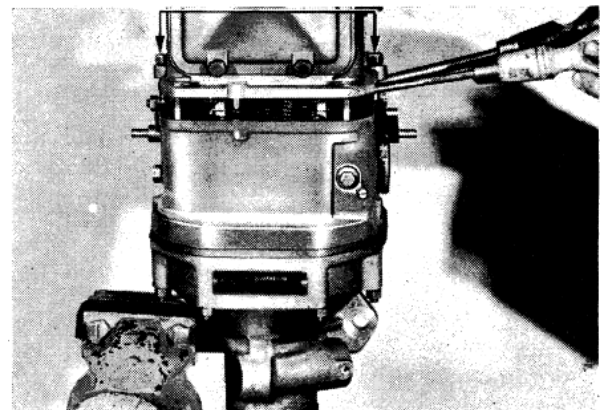

Fig. 35 Fitting Gearbox to Overdrive Unit. This operation is shown being carried out with a Vanguard unit.
17. Fit the gearbox assembly to the overdrive unit, holding the latter in a vice as shown in Fig. 35. It is necessary to depress the pump plunger with a screwdriver whilst carrying out this operation, in order to allow the cam to pass over its roller on the pump plunger. The operating cam should be assembled on the gearbox mainshaft's splines so that the eccentric is offset from the ball race; this is obviously necessary to allow the cam to align with the pump roller. The driving plunger on the overdrive unit should be slowly revolved by hand, as the splines on the gearbox mainshaft approach those in the overdrive unit.
to the overdrive unit, holding the latter vertically in the vice as shown in Fig. 35. After engaging top gear, turn the constant pinion until the splines in the overdrive unit mesh with those of the mainshaft. The eight springs are now located on their spigots and a nut and washer fitted to each long stud. These two nuts are now evenly tightened until the pump roller is nearing the pump driving cam. The driving cam should have been assembled on the gearbox mainshaft: splines so that the least amount of eccentricity is nearest to the pump roller. It is necessary to depress the pump plunger with a screwdriver to allow the pump roller to pass over the cam. The nuts are now finally tightened.